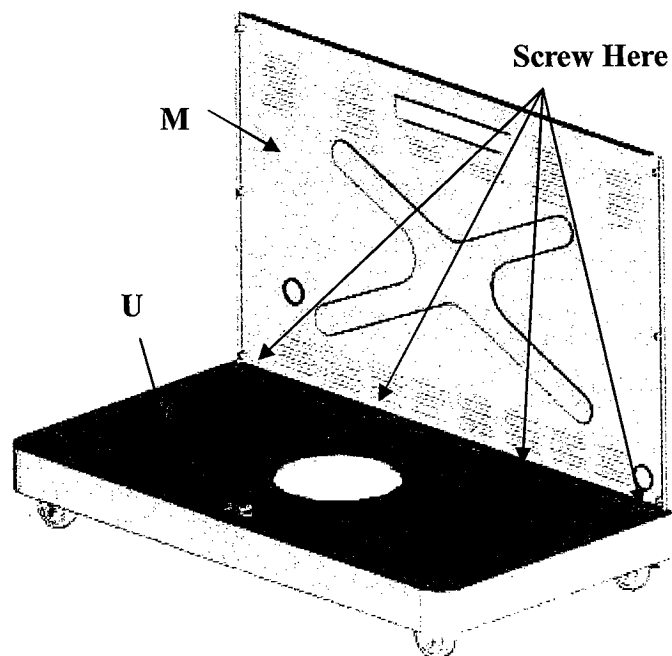

Fig. 4
Align the holes in the rear panel (M) with the holes in the bottom panel (U) and insert the screws into the aligned holes. (See Fig. 4)